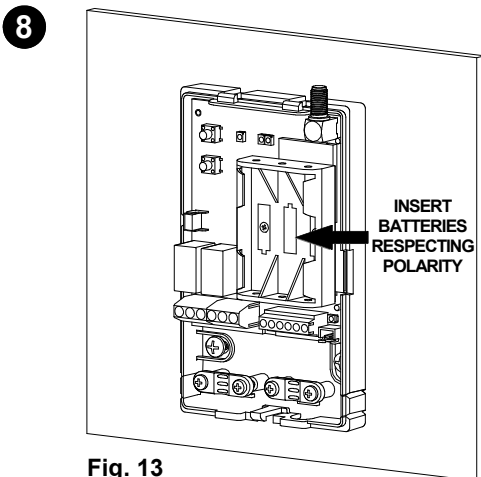
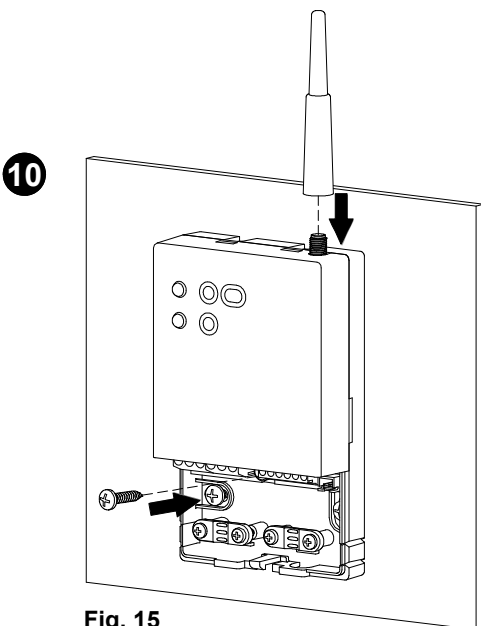

Fig. 13
Fig. 15
- ⑧ Insert the batteries supplied according to the correct polarity (Fig. 13).
- ⑨ Place the cover on the base so that the two teeth of the upper part matches the relevant slots and rotate the cover towards the base.
- ⑩ Insert the screw blocking the cover onto the base and screw the antenna onto the relevant connector (Fig. 15).